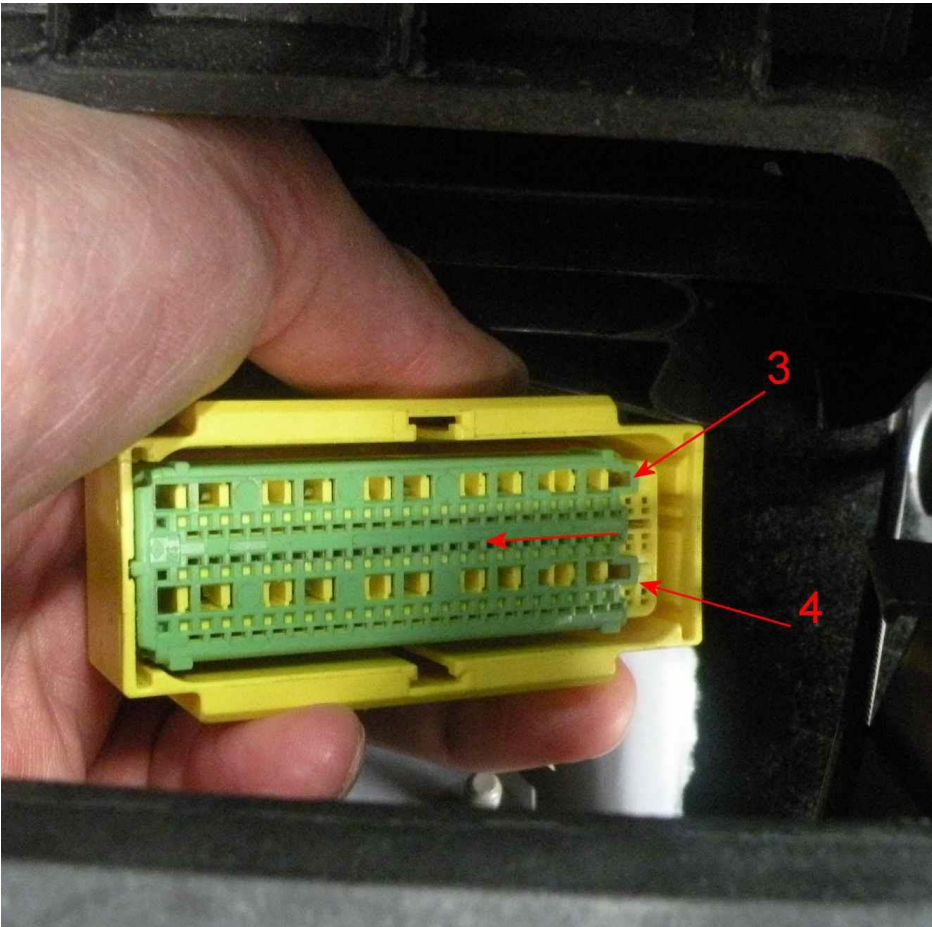

Figure 11
20. Lift and slide the secondary keeper over the two bars at points 3 and 4 to reveal the terminal lance access ports (see Figure 11)